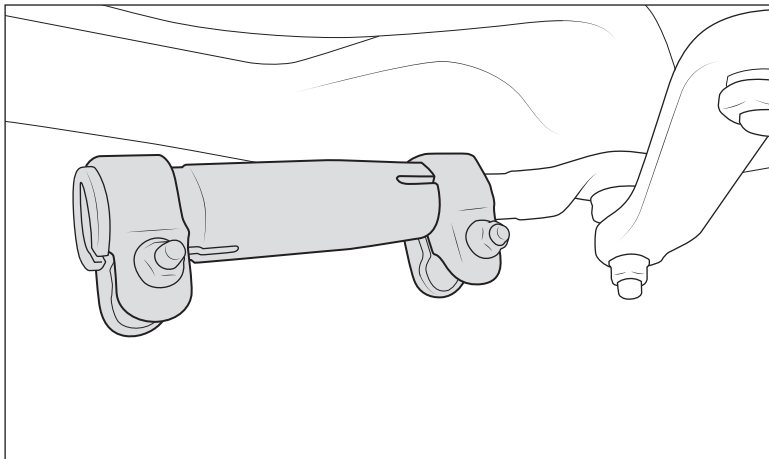

Figure 37
- A. Thread the new adjuster 6 turns (approx, 3/8”) onto the pitman arm tie rod end before starting threads on draglink (fig. 37).